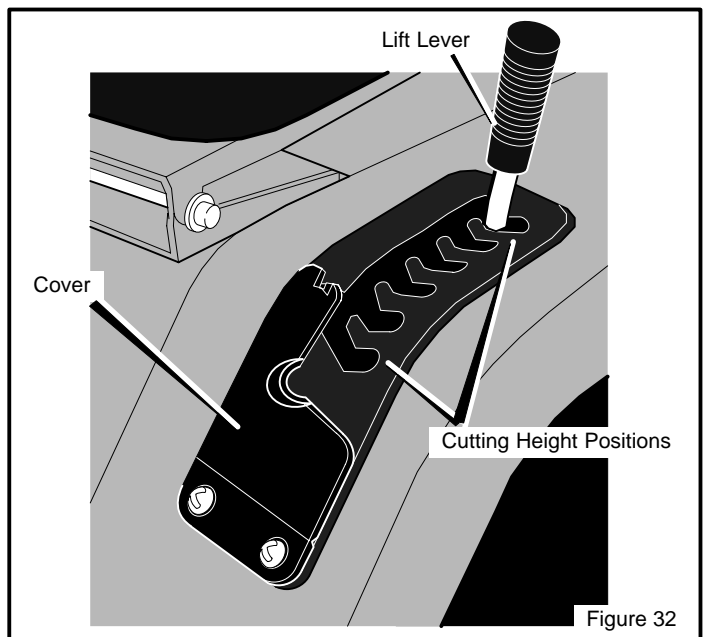

Figure 32
8. Raise the **lift lever** from the LEVEL ADJUSTMENT position to a CUTTING HEIGHT position (Figure 32).